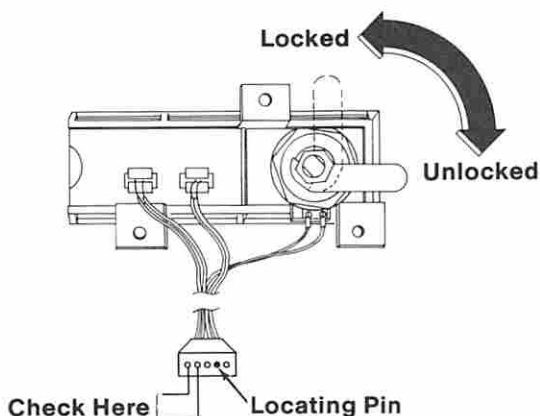

Figure 2. Continuity Check
- Check the control panel switch as shown in Figure 2 on page 0300-4.